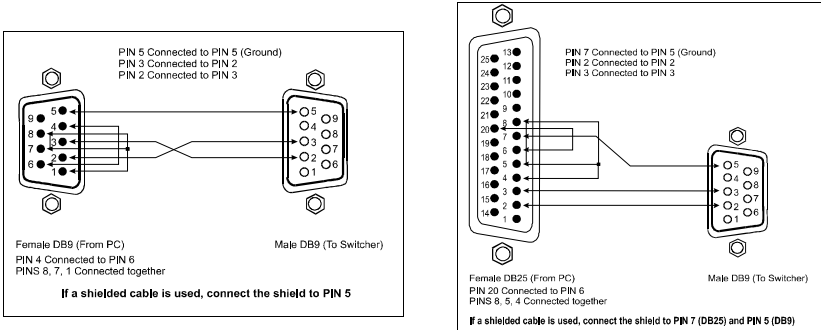

Figure 3: Connecting a PC without using a Null-modem Adapter
- Connect the RS-232 DB9 port on your PC to the “RS-232” DB9 rear panel port on the **VP-2x2** unit, as Figure 3 illustrates (depending on whether the PC has a 9-pin or 25-pin connector)